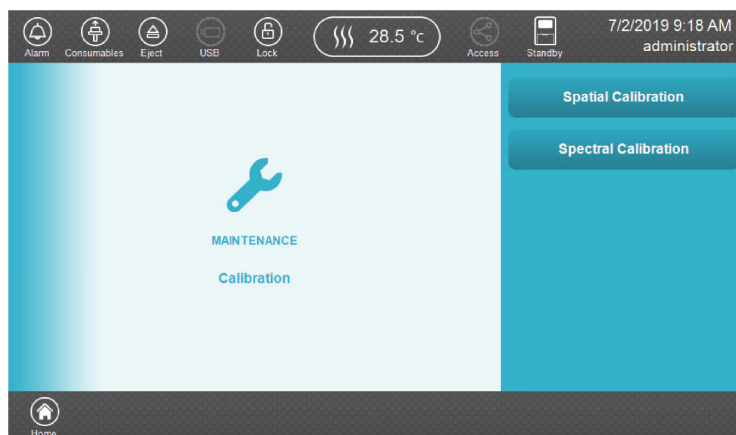

Figure 44. 'Maintenance Calibration' screen.
1. Select **Calibration** on the maintenance portion of the Spectrum Compact CE System Software 'Main Menu' screen (Figure 9) and select **Spatial Calibration** on the 'Maintenance Calibration' screen (Figure 44).
2. Select **Calibration** on the maintenance portion of the Spectrum Compact CE System Software 'Main Menu' screen (Figure 9) and select **Spectral Calibration** on the 'Maintenance Calibration' screen (Figure 44).